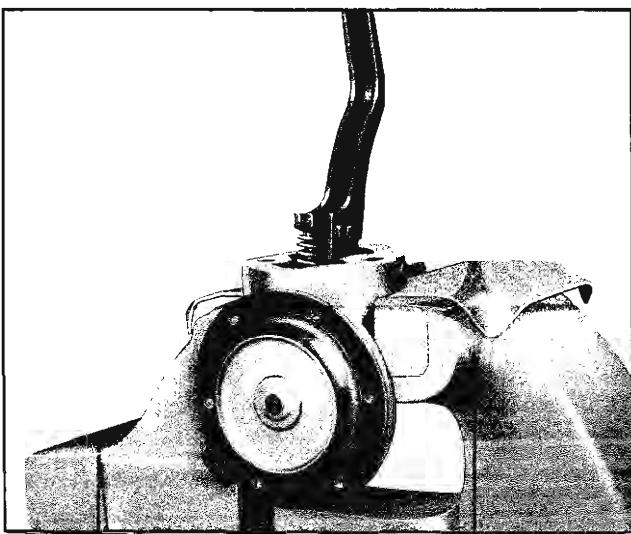

Fig. 6B-131 Diaphragm Assembly Installed (4 Cyl.)
10. Pick up diaphragm and spring as an assembly and push pull rod through oil seal into body. Be sure diaphragm spring is seated in body. Have flat of pull rod parallel to flat of link with the diaphragm flush with the body. With palm of hand, turn the diaphragm 90° , or until flat of pull rod is perpendicular to pump link. This motion should engage the pull rod "eye" with the link hook. If not, repeat this procedure until the connection is made (Fig. 6B-131).